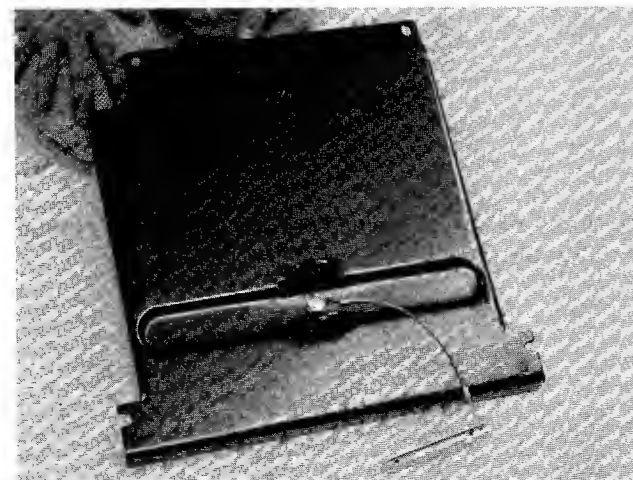

FIGURE 22.
Attach the looped end of hitch pin (S) under head of bolt. See figure 22.